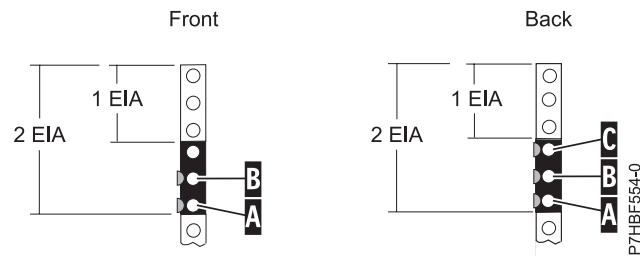

Figure 35. Marking holes on the front and rear of the rack frame
3. Begin with the hole identified by the mark (A). Count up one hole and place a second mark (B). Mark the rack so that the mark can also be seen from the rear of the rack, as shown in Figure 35.
5. Facing the rear of the rack and working from the right side, locate the bottom EIA unit that your expansion unit uses. Make a mark next to the bottom hole of this EIA unit (A).
6. Begin with the hole identified by the mark (A). Count up one hole and place a second mark (B), as shown in Figure 35.
7. Begin with the hole identified by the mark (B). Count up one hole and place a third mark (C), as shown in Figure 35.